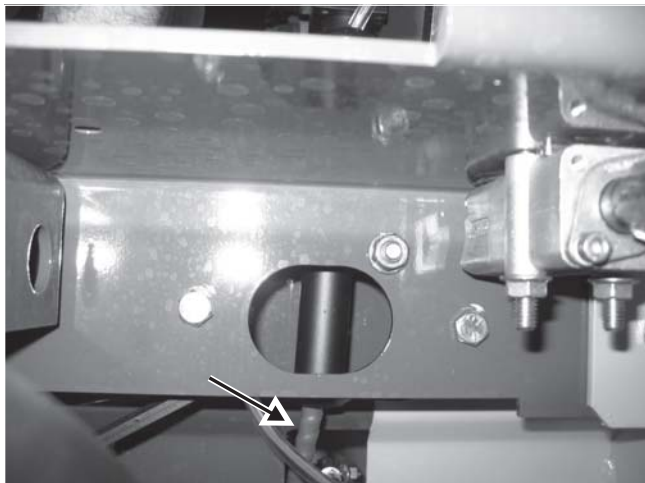

Fig. 6-72 Location of cable in lower handle.
3. Pull auxiliary cable down through control handle. **Fig. 6-72**